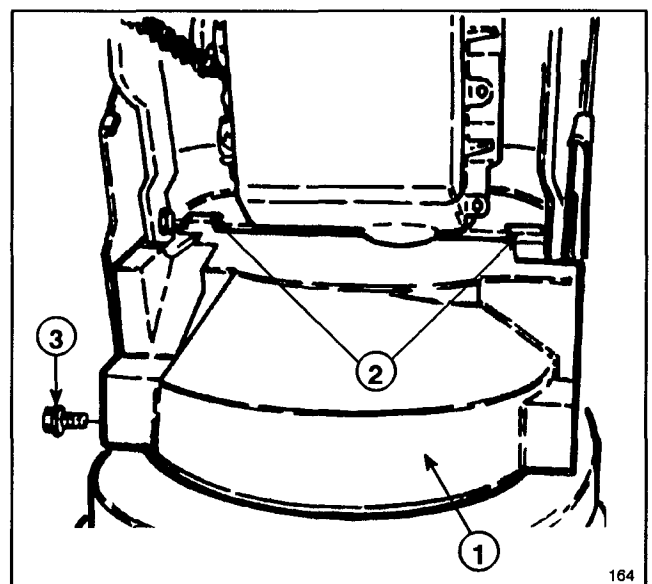

Figure 2
4. Secure auger housing to engine frame with (6) 5/16–18 x 3/4" lg. flange head capscrews.
7. Mount lower belt cover to underside of auger housing and engine frame with (2) 1/4–20 x 1/2" lg. flange head capscrews (Fig. 2). Make sure belt cover mounting tabs are positioned to rear of engine frame member.